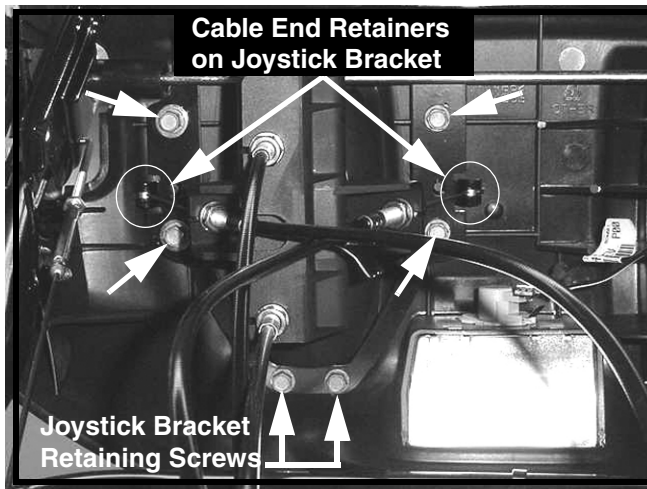

FIGURE 3
7. Loosen, do not remove, the six (6) screws securing the joystick bracket to the panel. See Figure 3.
8. Slip the rotation pulley/cable assembly cable ends out of the cable end retainers on the joystick bracket. See Figure 3.